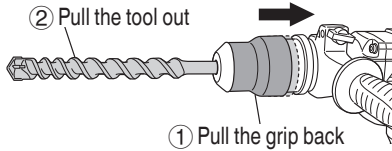

Fig. 3
- (3) Pull the tool to make sure it is locked completely.
- (4) To remove the tool, fully pull the grip in the direction of the arrow and pull out the tool (Fig. 3).